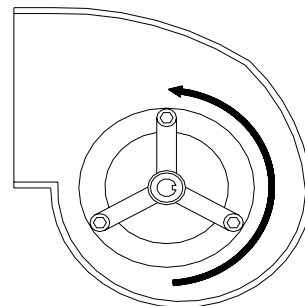

FIGURE 5
3. Before re-assembling the electrical box cover, momentarily turn unit on and off via the remote start/stop switch. Note the rotation of the blower wheel. Proper rotation is shown in Figure 5.